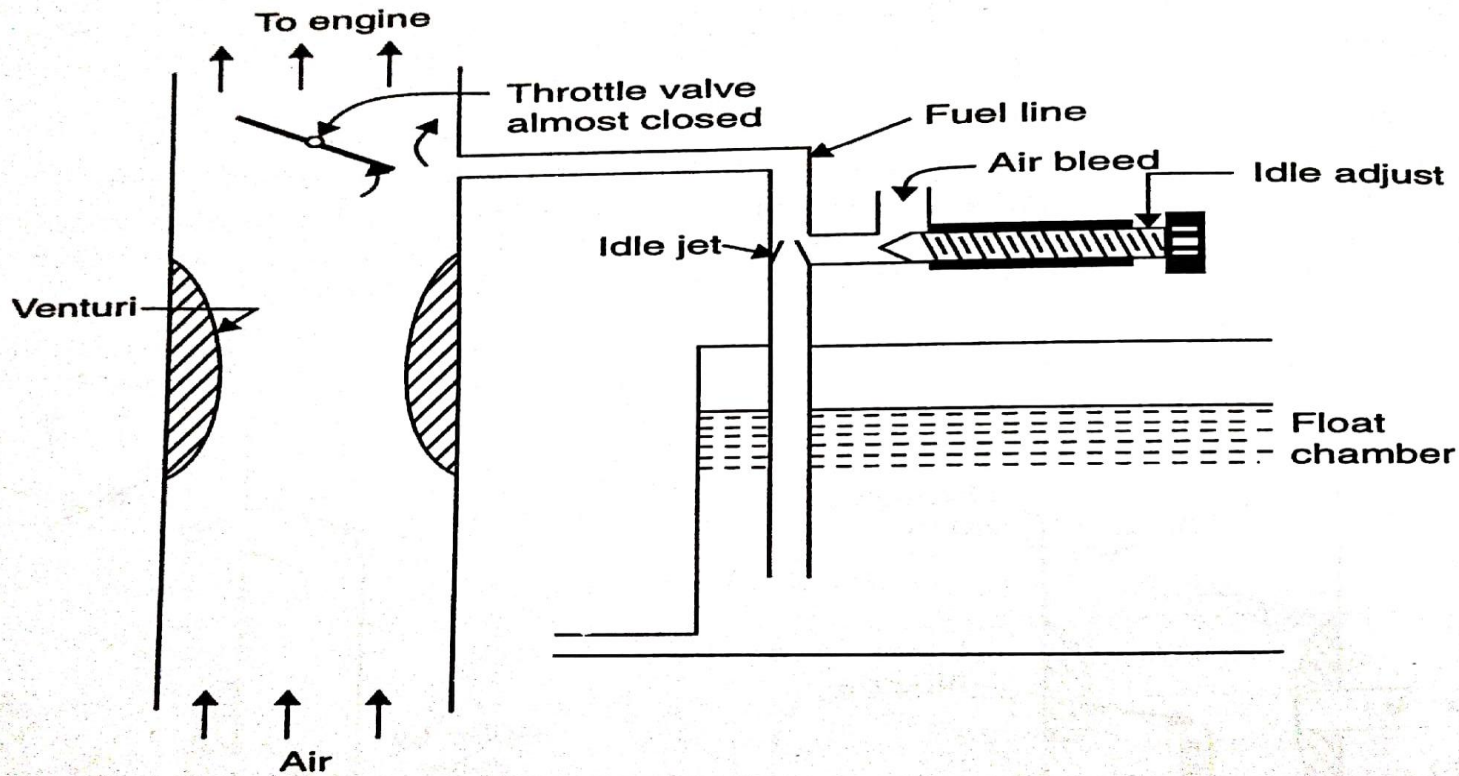

Fig. 11.12. Idling jet.
- Fig. 11.12 shows an idling jet. It consists of a small fuel line from the float chamber to a point on the engine side of the throttle ; this line contains a fixed fuel orifice.